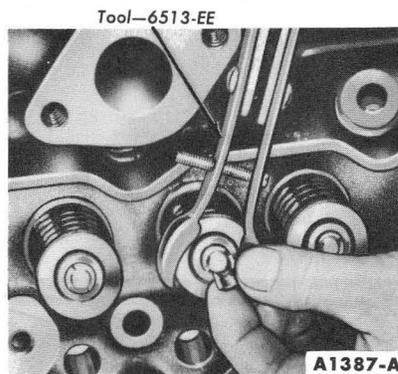

FIG. 36—Compressing Valve Spring
2. Compress the valve springs (Fig. 36). Remove the valve retainer locks and release the spring.
4. Compress the spring and install the retainer locks (Fig. 36).